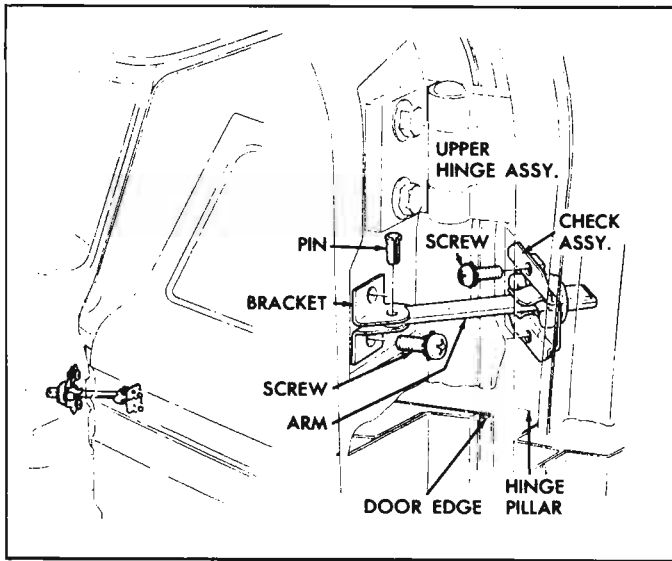

Fig. 10-36a—Front Side Door Check Assembly
1. Remove groove pin from door check (fig. 10-36a).
The door check is mounted just below the upper hinge assembly and consists of two assemblies, the door check arm, which is mounted in the hinge pillar and the door check bracket which is mounted on the door (fig. 10-36a).
1. Remove pin from door check arm to bracket (fig. 10-36a).